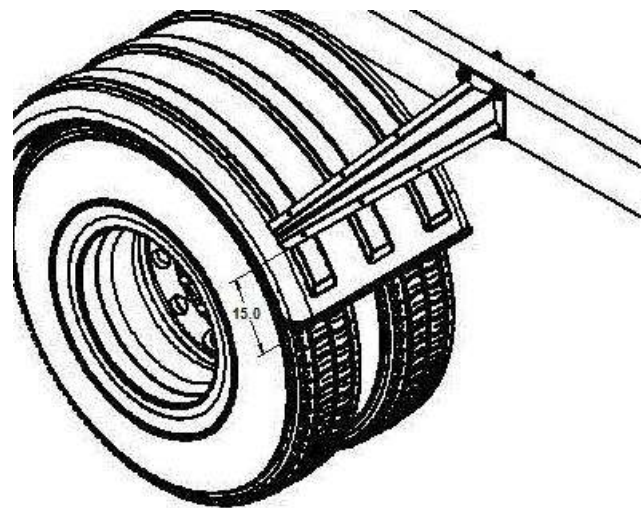

Figure 6
C. If possible, position the mounting brackets so they are located within 15" of the bottom of the fender. This guards against wind blowing the leading edge of the fender back into the tire (Figure 6).